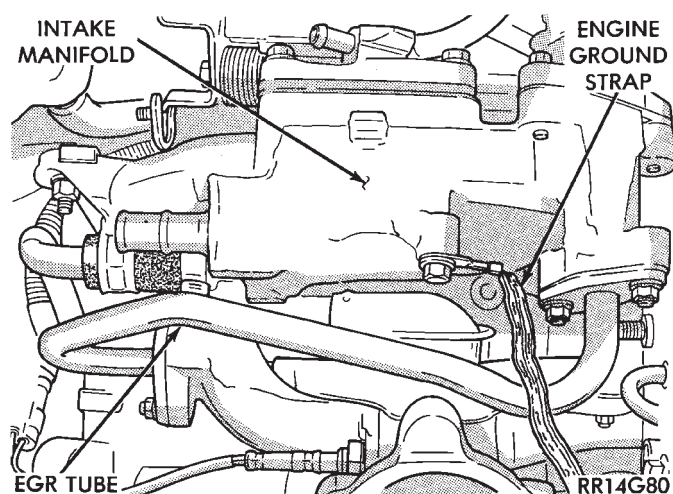

Fig. 24 Engine Ground Strap at Intake Manifold
(31) Verify engine ground strap is attached at the engine and dash panel (Figs. 24 and 25).